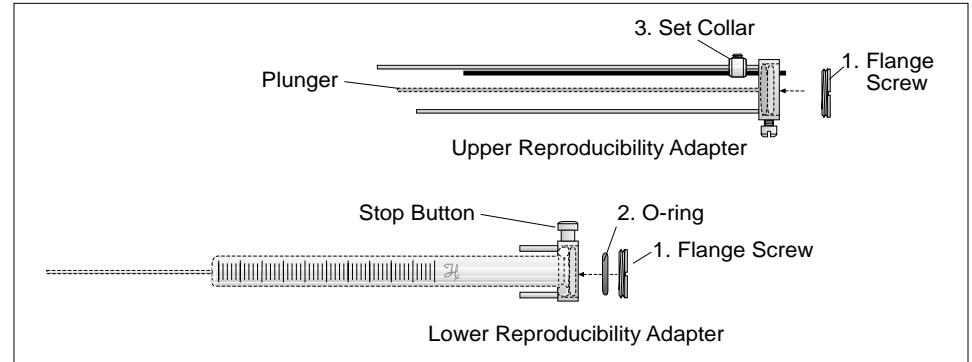

Figure 3.
3. Using a screwdriver, loosen the lower Chaney adapter flange screw (turns counter-clockwise). Remove the flange screw (1), and the O-ring (2).
5. Place the O-ring on the top of the syringe flange and replace the flange screw (Figure 3). Tighten the flange screw firmly while holding the syringe so that both the syringe scale and the stop button (7) face you.